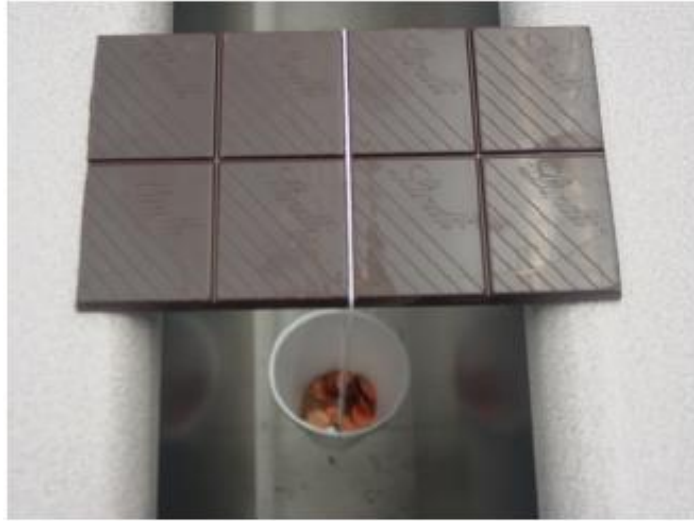

Figure 2. Chocolate bar subjected to a 3-point bending test
5. Place the twine with the cup attached across the middle of the chocolate bar so that the cup hangs freely below the chocolate bar as shown in Figure 2.
Note: If the chocolate bar is “scored” (indents in the chocolate which make it easier to break into pieces), and the string is centered in the score as shown in Figure 2, the bar will be less strong than a bar of equal size that does not have score lines (e.g., a Crunch[®] bar). While it would be best to be consistent (either have all the bars with score lines or no score lines at all), this can be difficult to find at times in a local grocery store. It is ok to run this lab with a combination of chocolate bars with/without scores, but the point should be made to the students that this may cause some differences in the bar’s strength that has nothing to do with changes in the microstructure, but rather a difference in geometry. This is part of the reason why this lab utilizes the calculation of flexural strength rather than just comparing the chocolate bars based on the number of pennies in the cup at failure. The flexural strength calculation attempts to account for the geometry of the bar during the loading process. If the bar contains score lines, you can have students measure the thickness of the bar at a score line and away from the score line. Use each set of dimensions to calculate the flexural strength of the bar and compare the two values. The actual flexural strength of the bar is most likely an average of these values.